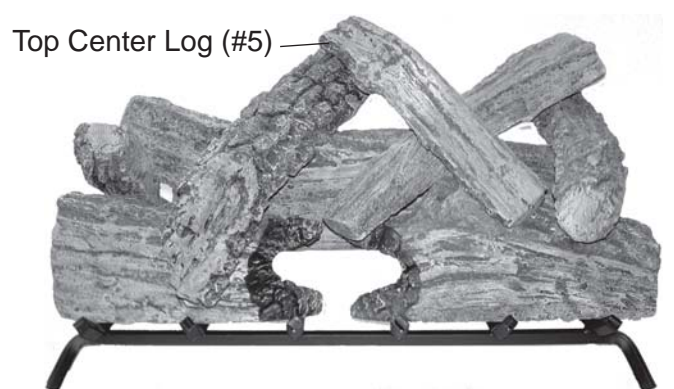

Figure 119- Installing Top Center Log (#5)
9. Lay Top Center Log #5 across log #7 with front end resting on Log #1B. See Figure 119.